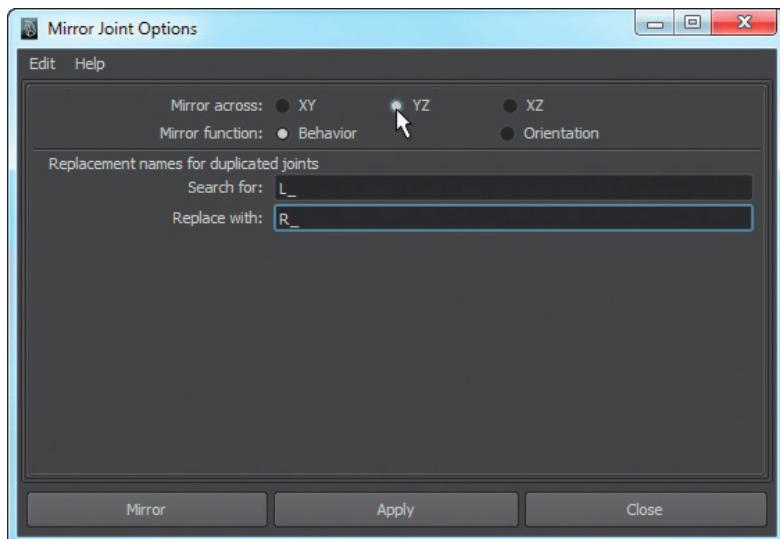

FIG 8.11 The Mirror Joint Options window.
Step 16: Mirror the left leg joints. Do this by selecting the L_Hip joint and then choosing Animation|Skeleton > Mirror Joint (Options). There, change the Mirror across setting to YZ and change Search for: L_ and Replace with: R_ (Fig. 8.11).